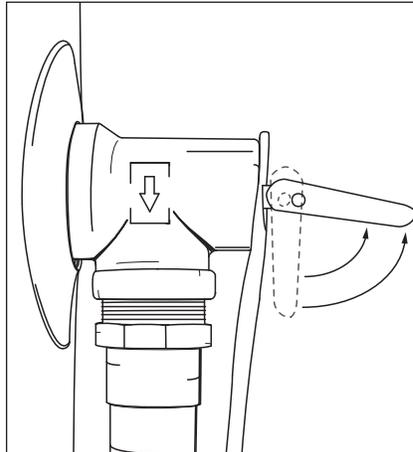

Figure 46 - T&P Relief Valve
- At least annually, inspect the T&P Relief Valve and discharge pipe for damage caused by corrosive water conditions and mineral deposits. Operate the T&P Relief Valve manually to ensure the waterways are clear and the valve mechanism moves freely (see Figure 46). Before operating the valve manually, check that it will discharge in a place for secure disposal.